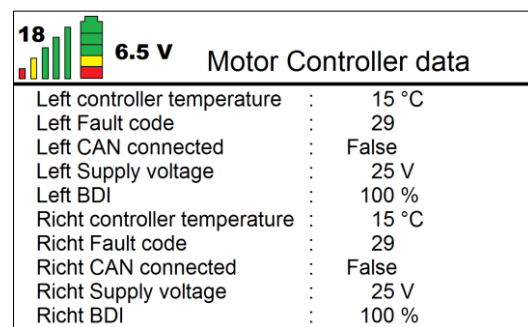

Figure: 22
- Then open **Motor controller data** by pressing the (✓) button (see figure 22).